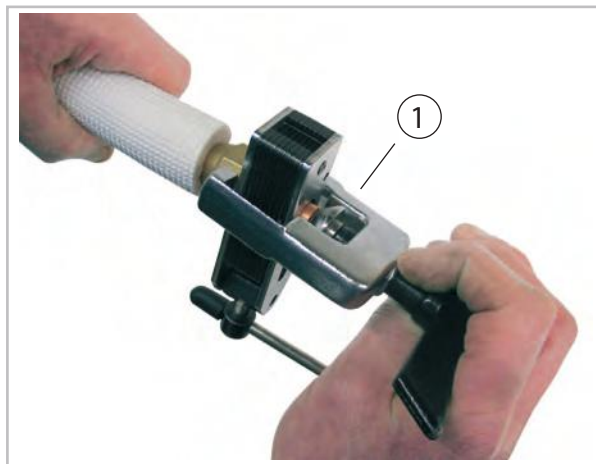
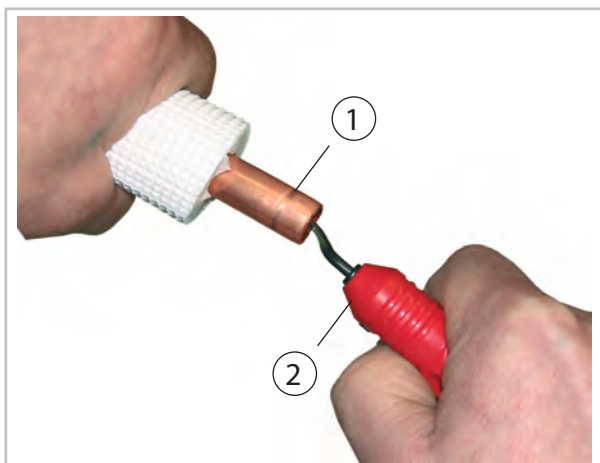

Fig. 38: Flanging the refrigerant piping
Fig. 37: Deburring the refrigerant piping
8. ➤ Prepare the laid refrigerant pipings as shown below (Fig. 37 and Fig. 38).